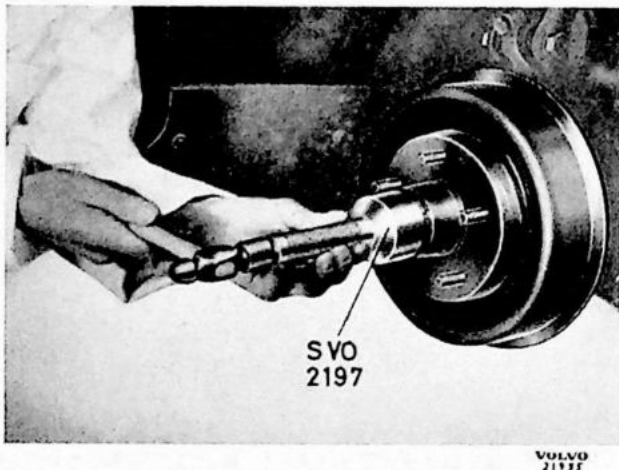

Fig. 10. Fitting the grease cap.
11. Half-fill the grease cap with grease and fit it by using tool SVO 2197 (fig.10).